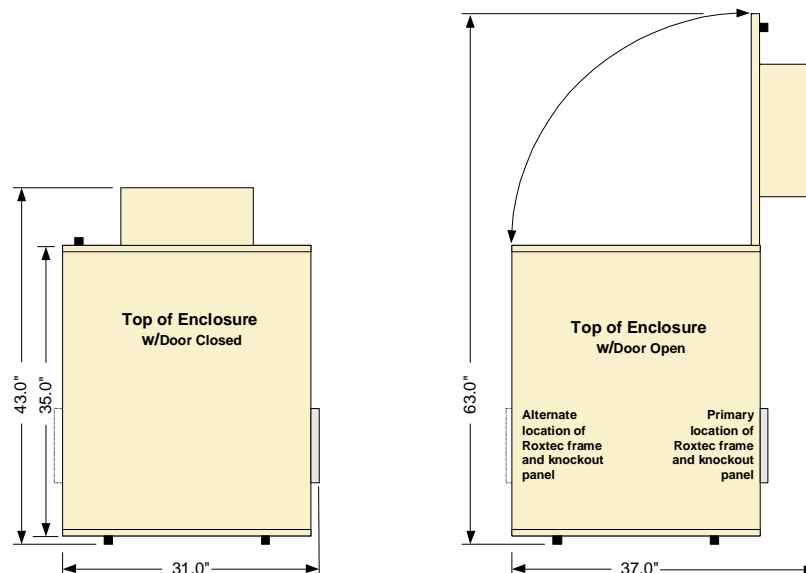

Fig. 2-1, Swing Arc of Enclosure door
- Configure enclosure footprint to accommodate swing arc of enclosure door. See Fig. 2-1.
Prior to placing the enclosure, make certain there is adequate swing room for the door. Allow at least 40" for the door's swing arc (with a few extra inches). See Fig. 2.1 on p. 17 for a detailed schematic of the door's swing arc. In addition, the enclosure must be on a smooth surface. It is the installer's responsibility to ensure that the mounting surface for the enclosure is smooth and free of bumps.